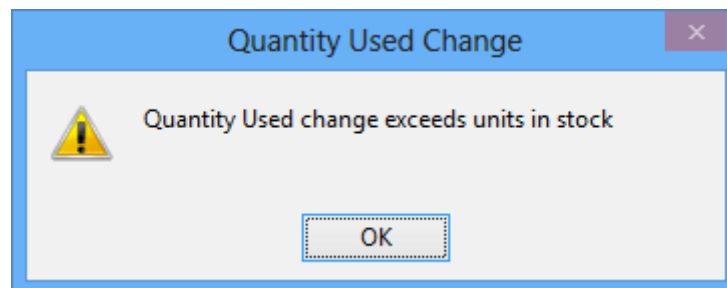

Figure 45: Message Box when Quantity Used Exceeds Units In Stock
2. **Execute the Macros:** Open the main form of the *RepairOrder2* form in form view. In the subform, enter a new value for a part in the *Quantity Used* column. A corresponding change should occur in the *In Stock* column. If you enter a value in which the additional parts required exceed the *In Stock* value, a message box should appear as shown in Figure 45. Close the form and save the changes when prompted.